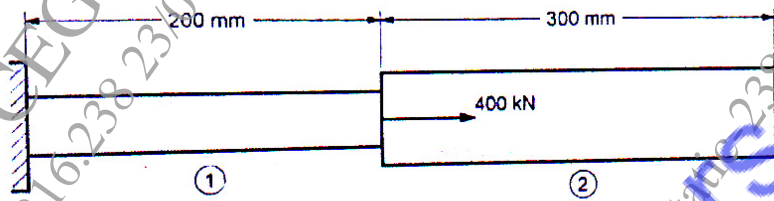

Figure 2
- b) An axial load of 400 kN is applied at 20 °C to the rod as shown in Figure 2. The temperature is then raised to 50 °C. [6]